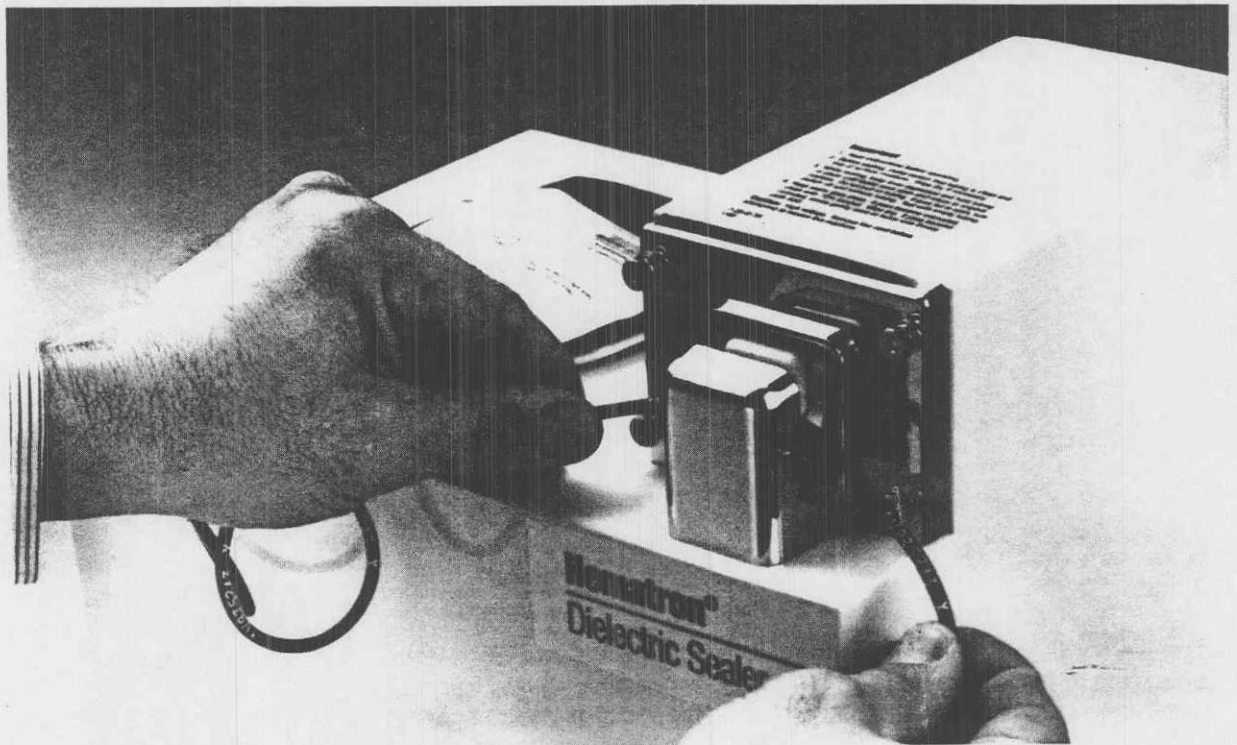

Figure 2-2 Sealing Tubing
5. Position tubing so that the X mark nearest the needle is between the sealing jaws. Gently depress tubing to trigger the sealing process. Hold the tubing in place until the sealing jaws open (see Figure 2-2).